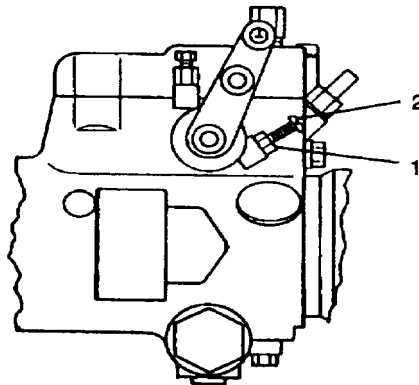

FIGURE 4-2. Fuel Injection Pump High Idle Speed Adjustment
- h. Loosen jam nut (1, FIGURE 4-2) and back out high idle stop screw (2) on fuel injection pump.
- (1) Turn OVERSPD control potentiometer clockwise one turn for each hertz generator set shut down prior to lower frequency limit.
- (2) Activate OVERSPD RESET switch.
- (3) Repeat steps i. and j
- n. Loosen jam nut (1, FIGURE 4-2), set high idle stop screw (2) to position recorded for step h., and tighten jam nut (1).